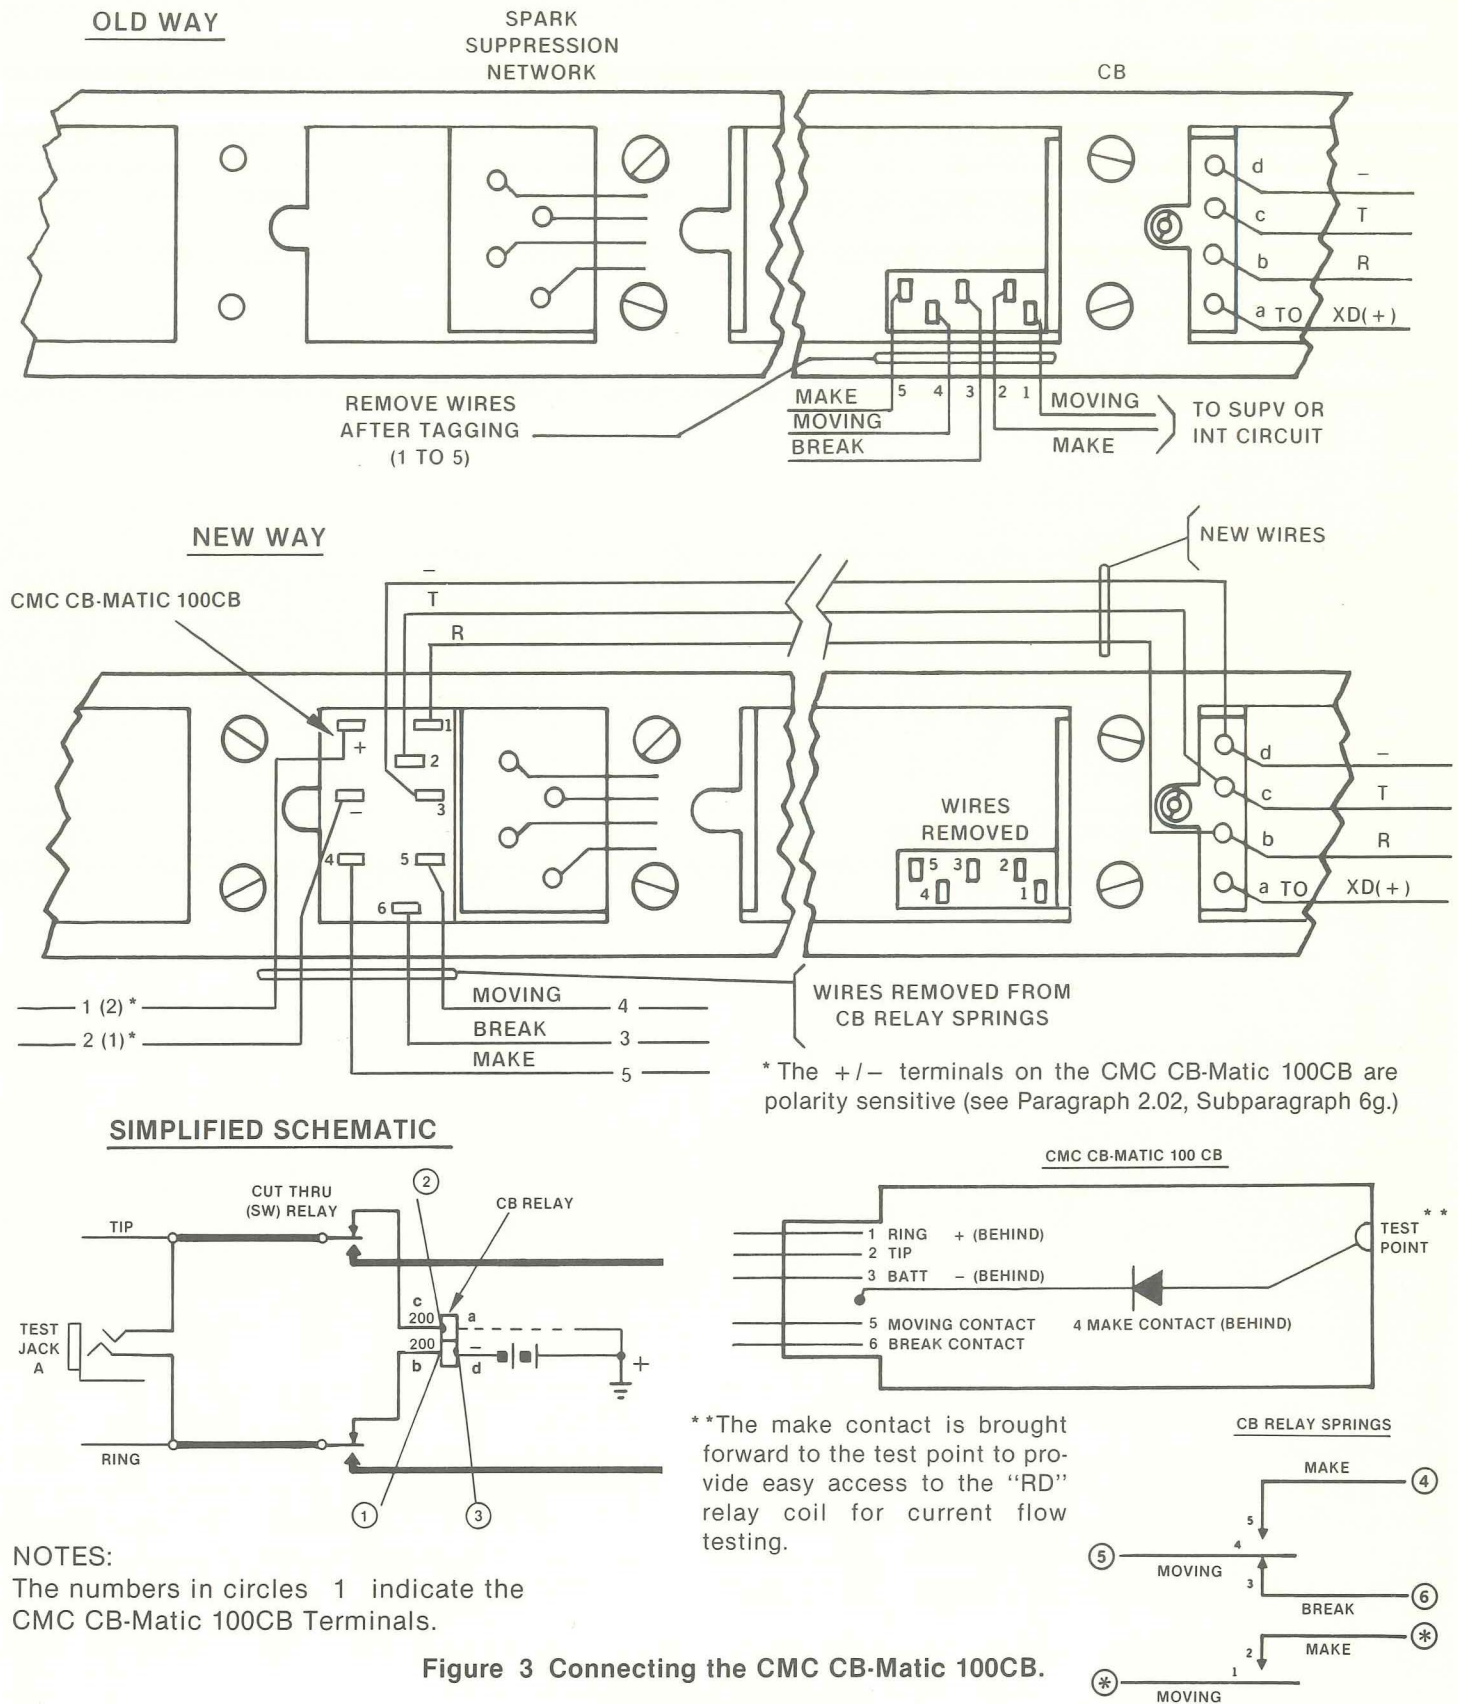

Figure 3 Connecting the CMC CB-Matic 100CB.
- (1) Make busy, in the approved manner, the selector/connector switch to be worked on. Remove and temporarily store the relay cover of the selector/connector.
- (2) Ensure that the power is removed from the relay circuit plate.
- (3) Identify (tag) the wires on the "CB" relay springs (Figure 3). Use the tags included with the Solid-State "CB" Relay for this purpose.
- (4) Unsolder the wires from the "CB" relay springs. These wires will be reused on the solid-state "CB" relay where possible. If the old wires cannot be swung, add new strap wires. **DO NOT REMOVE THE WIRES FROM THE COIL TERMINALS.**
NOTE: There is a resistor connected to spring 5 on some circuits. In this case, spring 5 may be used for a tie point. Leave the wires connected and run a new wire from spring 5 to Terminal 4 on the Solid-State "CB" Relay (Figure 3).
NOTE: If the relay coil terminals cannot be identified from the switch circuit drawing, use an ohmmeter to trace the wiring according to the simplified schematic in Figure 3. Check from the switch test jack A-Tip and Ring.
(6) Connect the wires to the Solid-State "CB" Relay as follows (see Figure 3).